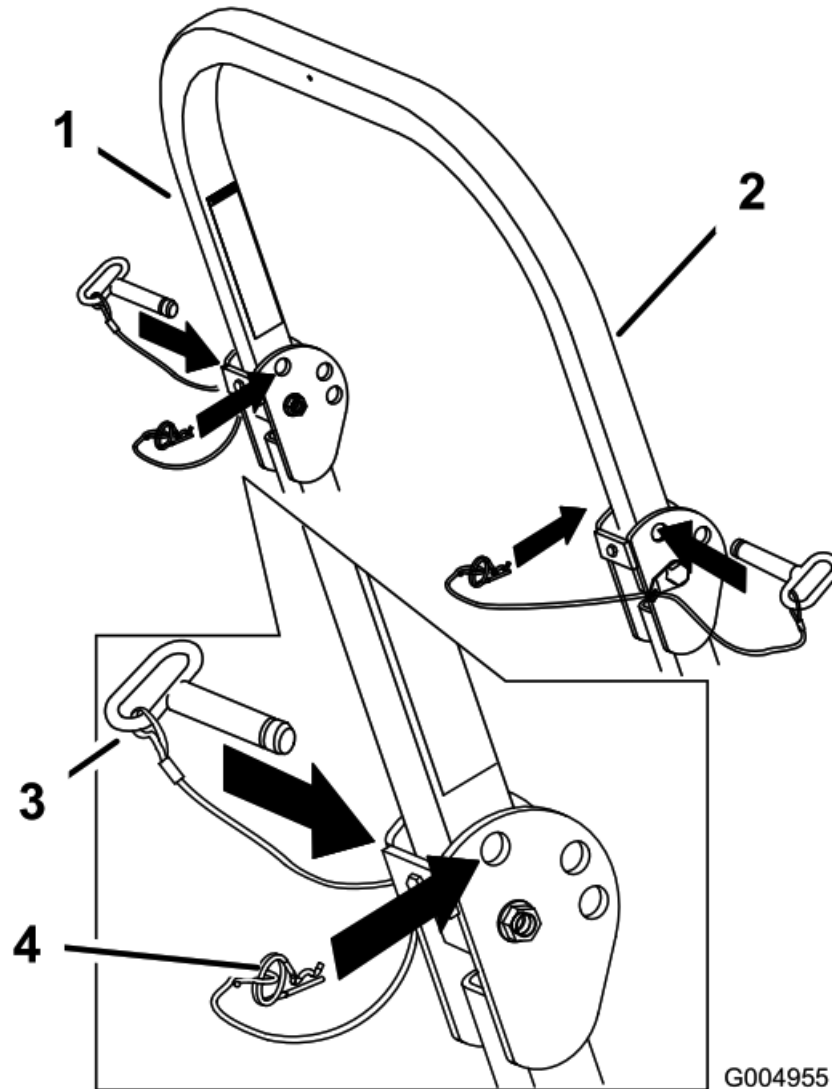

Figure 2
1. Remove the hairpin cotters and remove the 2 pins (**Figure 2**).
2. Raise the roll bar to the upright position, install the 2 pins, and secure them with the hairpin cotters (**Figure 2**).